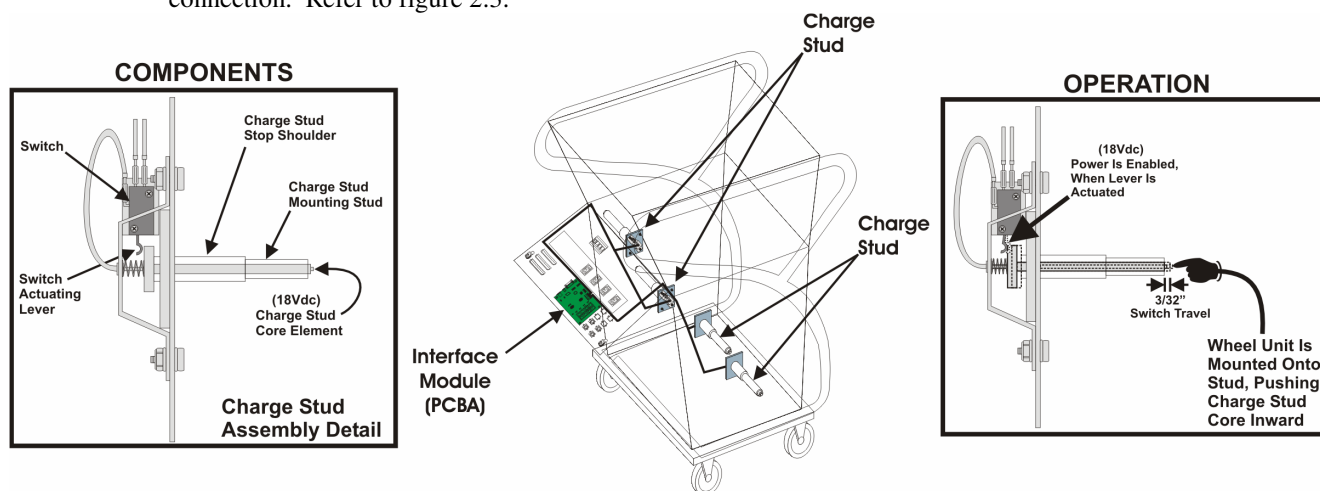

Figure 2-3. Charging Studs.
- 2.2.3 Charging Stud(s). The cabinet comes equipped with four (4) charging studs, used to mount the wheel units to the cabinet and provide an 18Vdc charging circuit, for each wheel unit's battery. A charge conductor applies 18Vdc to the charge interface module, inside each wheel unit, and the charge stud its self, serves as ground connection. Refer to figure 2.3.